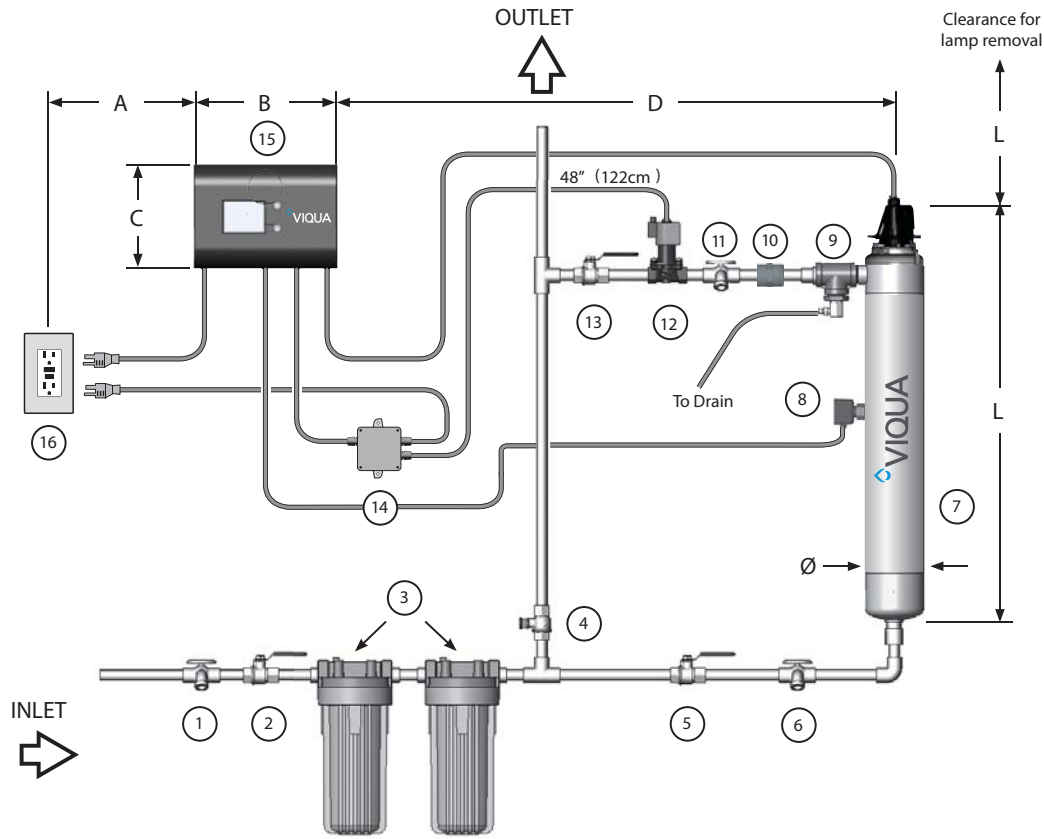

Figure 3 System - Dimension and Layouts
- Determine appropriate indoor location of the controller and chamber. Refer to Figure 3.
- Make all necessary plumbing connections. Refer to Figure 3.